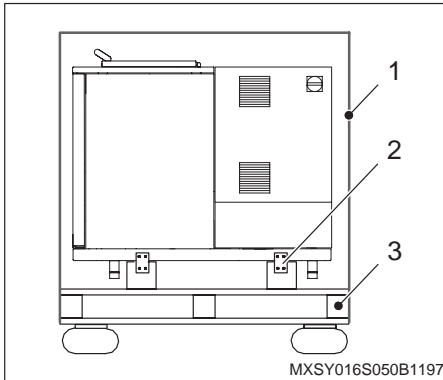

Fig. 3-2
Unpack carefully and check for damage caused during transport. Save pallet (3), angle brackets (2) and box (1) for later use, or dispose of properly according to local regulations (Fig. 3-2).